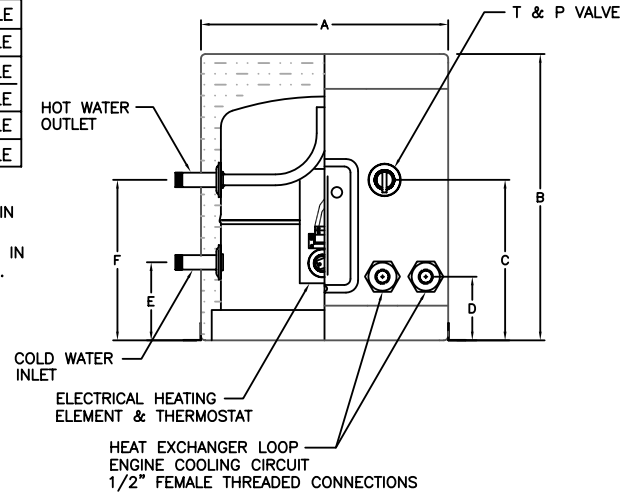

Figure 1
1. Connect cold water supply line to pipe connection marked “**COLD**” near bottom of heater (See fig. 1)
3. Connect hot water line to pipe connection to outlet marked “**HOT**”, on side near the top of the heater. (See fig. 1)